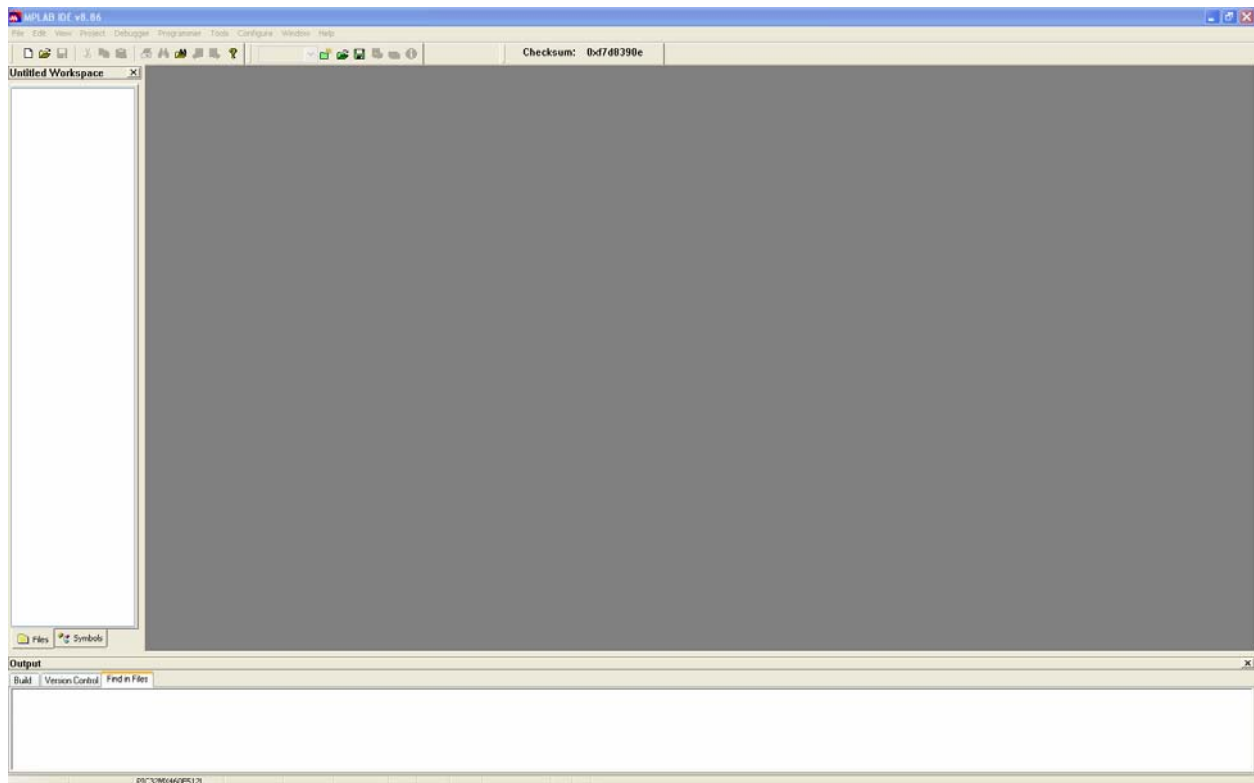

Figure 3: MPLAB Start Page
Step 1: Open MPLAB IDE either by double clicking on the Desktop icon or by clicking “start” -> “All Programs” -> “Microchip” -> “MPLAB IDE v8.86” -> “MPLAB IDE”. The window in Figure 3 should open. The panels within the window may not be aligned as seen in the figure, but you may arrange them according your preferences.